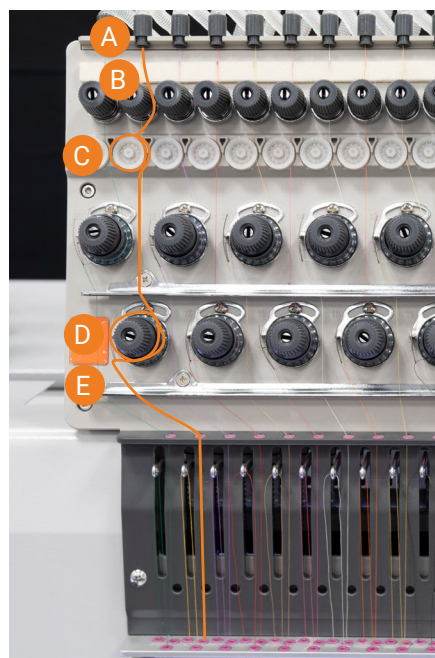

Figure 23
6. Next, pull the front disk of the second set of tension knobs toward you and slip the thread to the right side of the knob. Refer to step 2 to complete this part of the threading sequence. **See point B in Figure 23.**
7. Locate the thread break wheel (these are the white wheels on the machine's head) positioned under the second set of tension knobs. Guide the thread to the right and wrap it around the thread break wheel. See the path from point B to C in Figure 23. Make sure you make one full clockwise rotation until the thread exits to the right of the wheel. **See point C in Figure 23.**
10. Place the thread over the spring lever located to the left of the wheel. Once it is placed on the spring lever, pass the thread through the next corresponding eyelet. **See point E in Figure 23.**